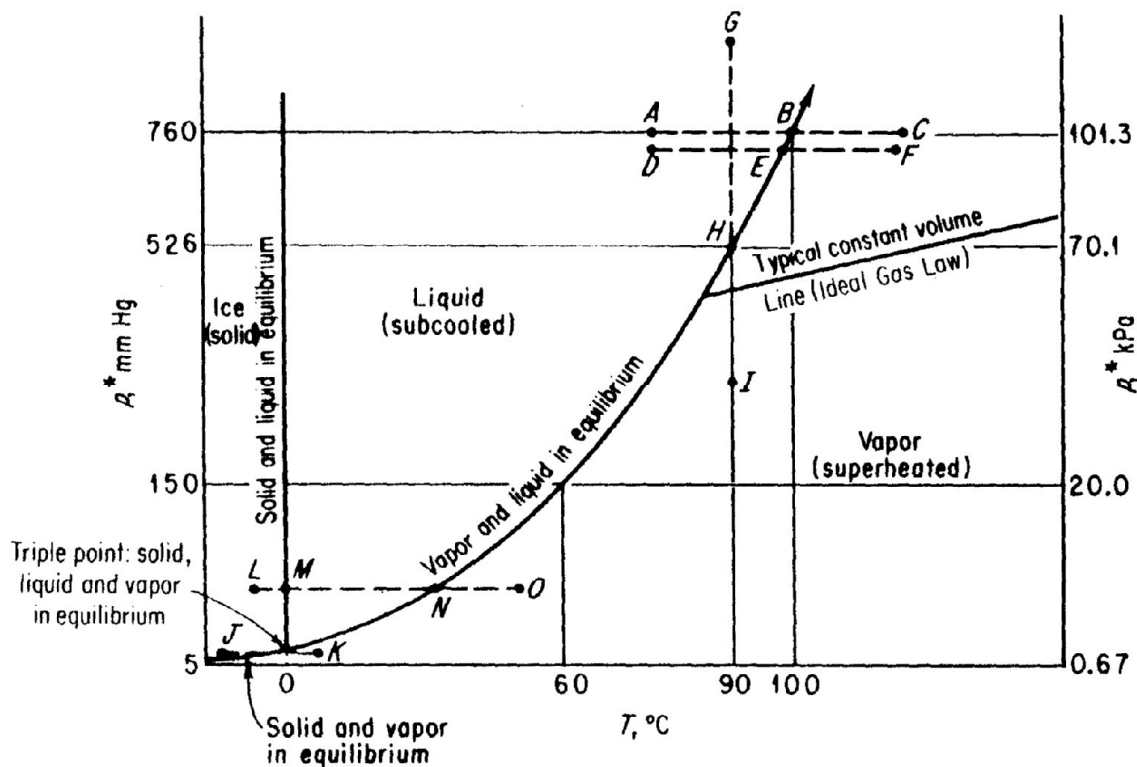

Figure 13.4 Vapor-pressure curve for water.
- ☒ If the vapor and liquid of a pure component are in **equilibrium**, then the **equilibrium pressure is called the vapor pressure** (see Figure 13.4).
- ❖ When the solid passes directly into the vapor phase without first melting to become a liquid (line J-K as opposed to line L-M-N-O in Figure 13.4) it is said to **sublime**.
You can see from Figure 13.4 that the function of p^* versus T is not a linear Function (except as an approximation over a very small temperature range).
Bubble point: The temperature at which a liquid just **starts to vaporize** (See Figure 13.4).
Dew Point: The temperature, at which the vapor just begins to condense at specified pressure, namely temperature values along the vapor pressure curve (See Figure 13.4).